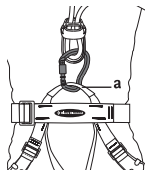

Figure 6
♦ Attach belay and rappel devices to the tie-in loop (figure 6) with a locking carabiner as shown.
- ◆ Rappel devices should be attached to the tie-in loop of your Type C sit harness with a locking carabiner as shown in figure 6.